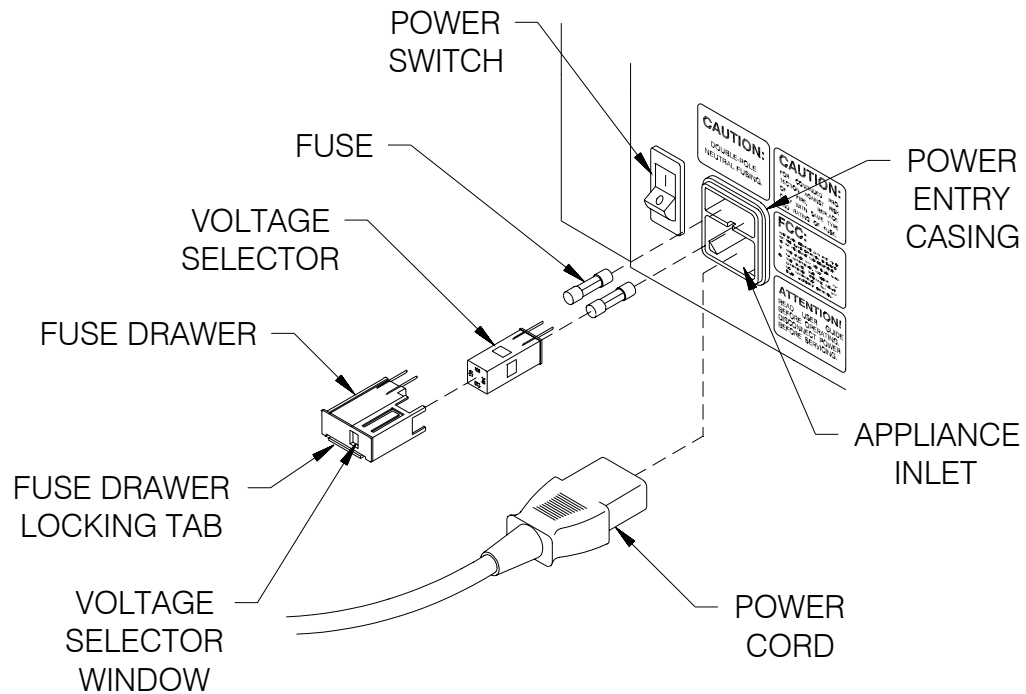

Figure 7.13 -- Replacing A Fuse
1. Push up on the FUSE DRAWER LOCKING TAB with a small screwdriver or similar tool to release this locking tab. (Refer to **Figure 7.13.**)